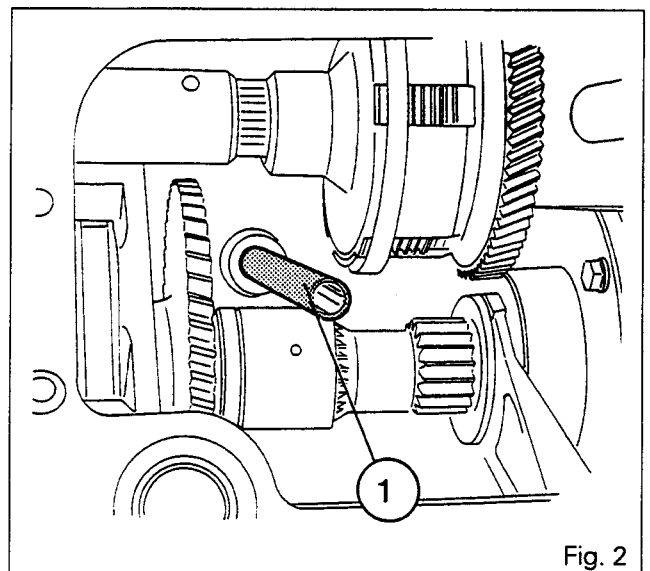

Fig. 2
7. Disconnect the harness (9) of the engine speed sensor.
8. Disconnect the harness of the low-pressure switch (13).
9. Disconnect wire (4) from clogging indicator.
12. Remove the screws (2).
14. Remove the transfer pipe (1) (Fig. 2)